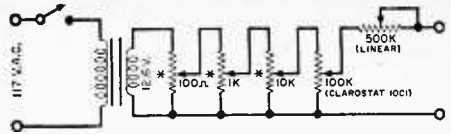

Fig. 3. Four-number a.c.-operated multiplier.
**Figure 3.** This advanced four-number multiplier circuit utilizes an a.c. voltage input as an energy source and an audio VTVM for the read-out device. The audio VTVM must be used since output voltage becomes small for most calculations.